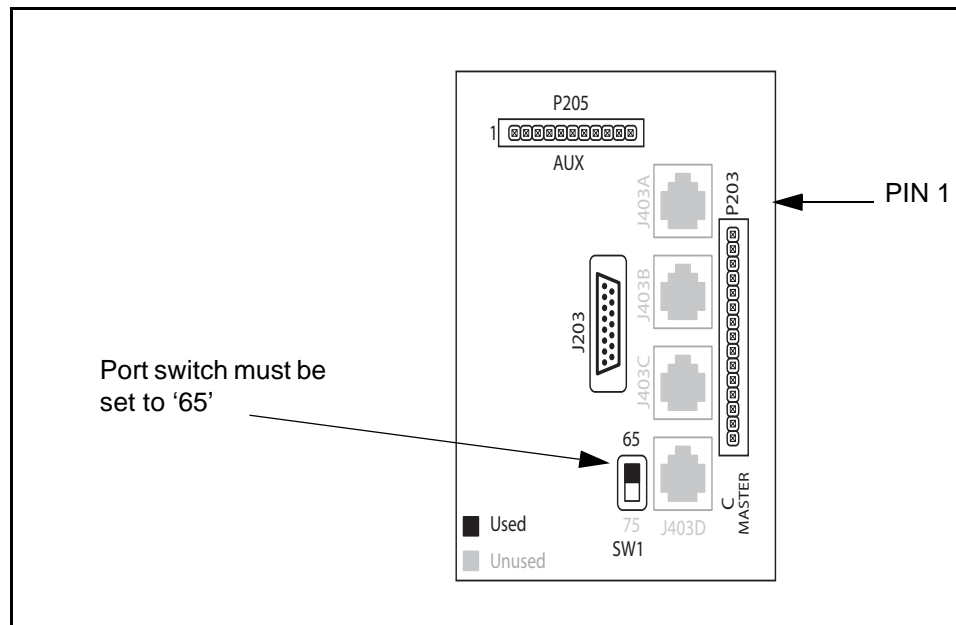

Figure 3: Connection to 4850/51 Main Control
4. Set the port switch to type '65' (see Figure 3)